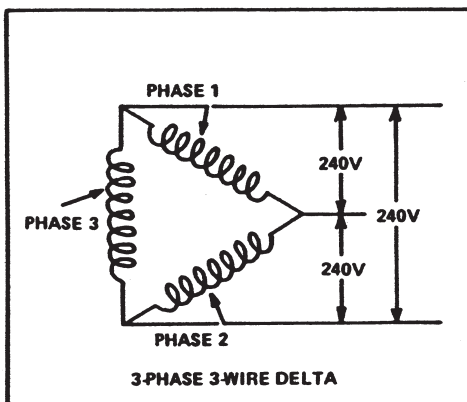
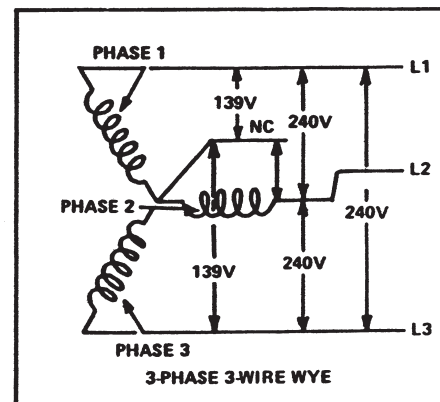

Figure 6 - 3-phase 3-wire delta system
Figure 7 - 3-phase 3-wire wye system
Of the systems we will cover, the one using three windings is most common. These three windings are so placed that three separate voltages are generated. This is called a three-phase generator. The three voltages are equal in value and 120 electrical degrees apart as shown in figure 5. The three windings may be connected in a triangle as in figure 6. This is called a Delta (Δ) connection, or they may be connected in a Wye (Y) as shown in figure 7, with one end of each winding connected. The three-phase system makes more effective use of the iron and copper than a single-phase system, to the extent that in most diesel engine driven generator sets, a single-phase generator will weigh more than a three-phase generator of the same output rating.